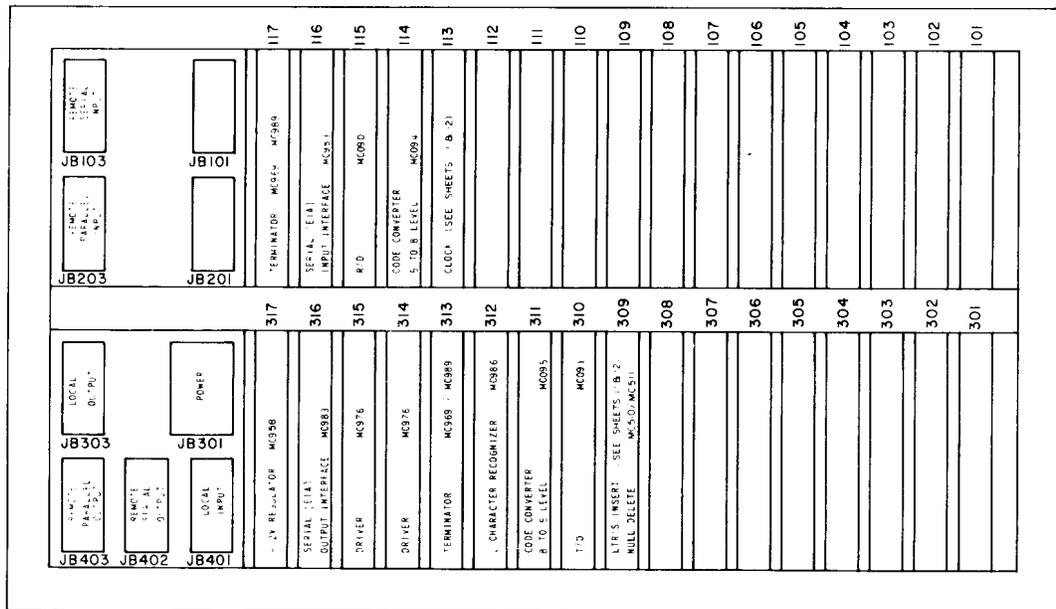

Figure 10 - CDIF802 Interface Module
5.22 The CDIF802 module (Figure 10) contains transmit and receive sections. The transmit section accepts local 5- or 8-level parallel data and control signals, and transmits 5- or 8-level parallel or serial data and control signals to a remote receiver. This section converts 8-level signals to 5-level, and also provides a transmitter distributor to convert parallel signals to serial.
5.32 Remove TP322094 (MC094) circuit card Baudot to ASCII code converter from its location (ZB114) in the module (Figures 10 and 12). Four options (W and Y, X, Z, and T) are available for customer selection. Only one option may be used at a time, except for option T (parity) which can be used as one option or may be used with any of the other options. Install program screws to enable option; remove screws to disable option.
5.40 Remove TP322091 (MC091) circuit card transmitter distributor from module location ZB310 (Figures 10 and 13). The following programming instructions are for CDIF802/BB arrangement only. Programming instructions in 5.41 cover all other module arrangements.